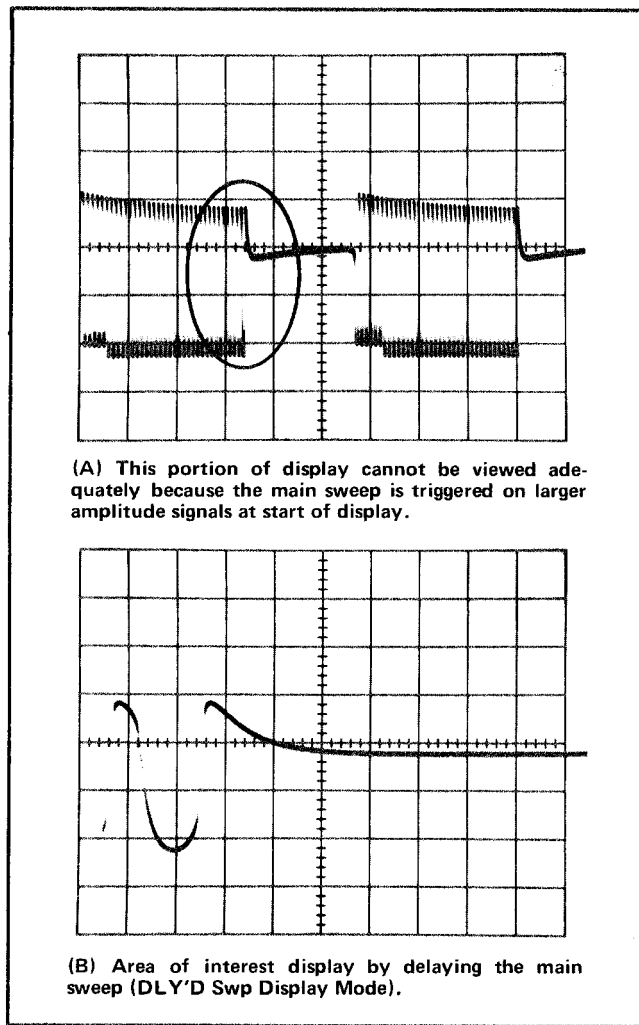

Fig. 1-17. Displaying a complex signal using delayed sweep.
**Example.** Fig. 1-17 shows a complex waveform as displayed on the CRT. The circled portion of the waveform cannot be viewed in any greater detail because the sweep is triggered by the larger amplitude pulses at the start of the display and a faster sweep rate moves this area of the waveform off the viewing area. The second waveform shows the area of interest magnified 10 times using Delayed Sweep. The DELAY TIME MULT dial has been adjusted so the delayed sweep starts just before the area of interest.